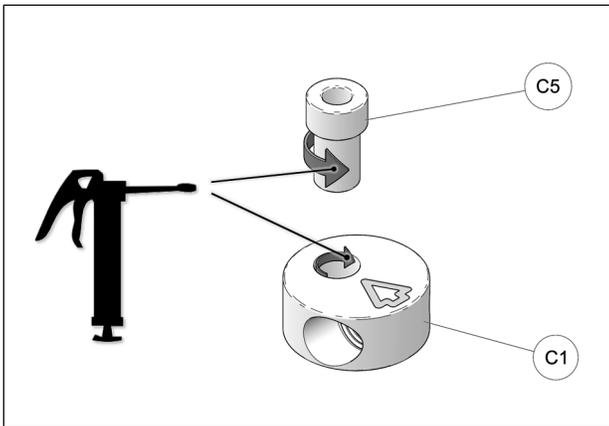

Fig. 15
10. Apply grease evenly all around step spacer bushing (C5) and in hole of aluminum disk (C1) when assembling these parts together. See Fig. 15